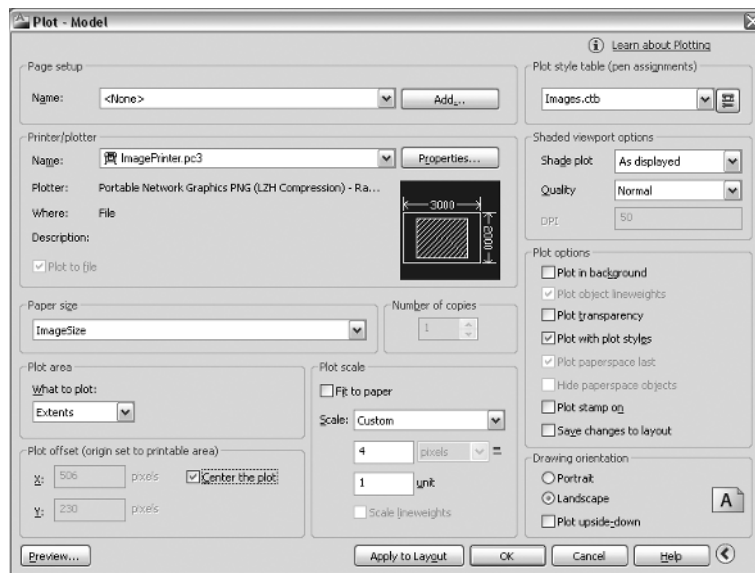

Figure 1.17 Rationalizing plot scale
10. Type 4 on the pixel side of the equation and 1 on the unit side. The black-and-white preview remains unchanged, so the final equation is simply 4 pixels = 1 inch (see Figure 1.17). Press Esc to close the Plot dialog box without plotting.